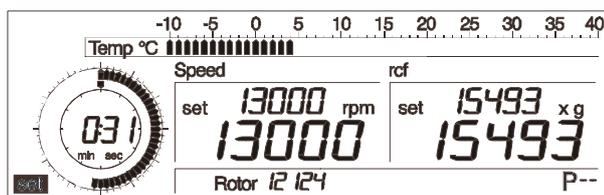

Fig. 5.11: Setting the time
- Turn the left rotary knob until "set" appears in the lower left area of the display (Fig 5.11).